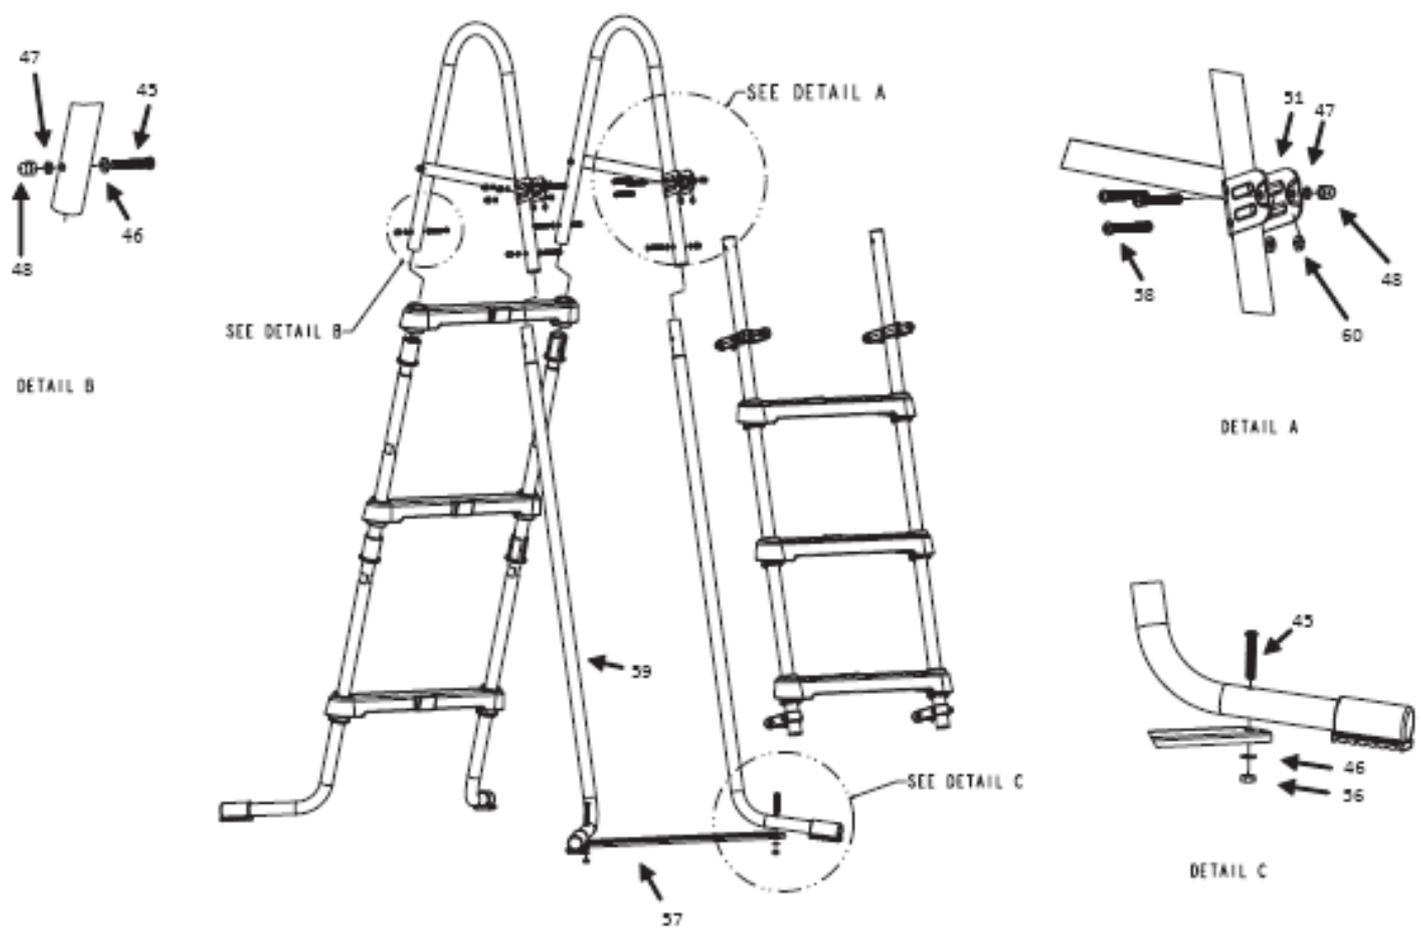

Fig. 6
10. Stand the Ladder Leg Ass'y in the upright position, with feet facing outward, as shown in the Figure 6. Place the ladder handles, with the Ladder Braces on the outside of the ladder, on top of both ladder leg sections.
12. From the inside of the Ladder Handle (41), insert the two Machine Screws (45) through the Flat Washers (46), then through the Ladder Handle and fasten in place using the two Lock Washers (47) and Cap Nuts (48). (See Fig. 6)
13. Stand the Left and Right Plain Ladder Legs (59) in the upright position, with feet facing outward, as shown in the Figure 6.
14. From the inside of the Ladder Handle (41), insert the two Machine Screws (45) through the Flat Washers (46), then through the Ladder Handle and fasten in place using the two Lock Washers (47) and Cap Nuts (48). (See Fig. 6)
15. Place the Ladder Base Plate (57) under the Plain Ladder Legs (59) as shown in the Figure 6.
16. From the top of the Plain Ladder Legs (59), insert the two Machine Screws (45) through the Flat Washers (46), then through the Ladder Handle and fasten in place using the Hex Nuts (56) as shown in the Figure 6.
17. Place the Swivel Leg Ass'y over the Ladder Hinge (51) and clip on the Plain Ladder Legs with the Swivel Ladder Clamp with Button (53) and the Swivel Ladder Clamp (55) as shown in the Figure 6. Insert one Plastic Flat Washers (60) into each recess between the Ladder Hinge and the Straight Ladder Leg.
18. From the inside of the Ladder Hinge, insert the Machine Screws (58) through the Plastic Flat Washer (60), then through the Straight Ladder Leg and fasten in place using the Flat Washer (47) and Cap Nut (48). (See Fig. 6)